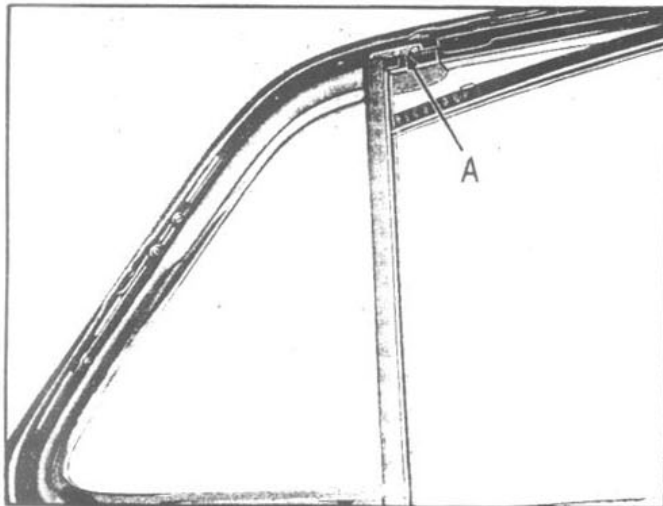

Figure No. 241
3. Remove the two screws and the nuts into which they thread in the door header. (See Figure No. 241 at "A.")